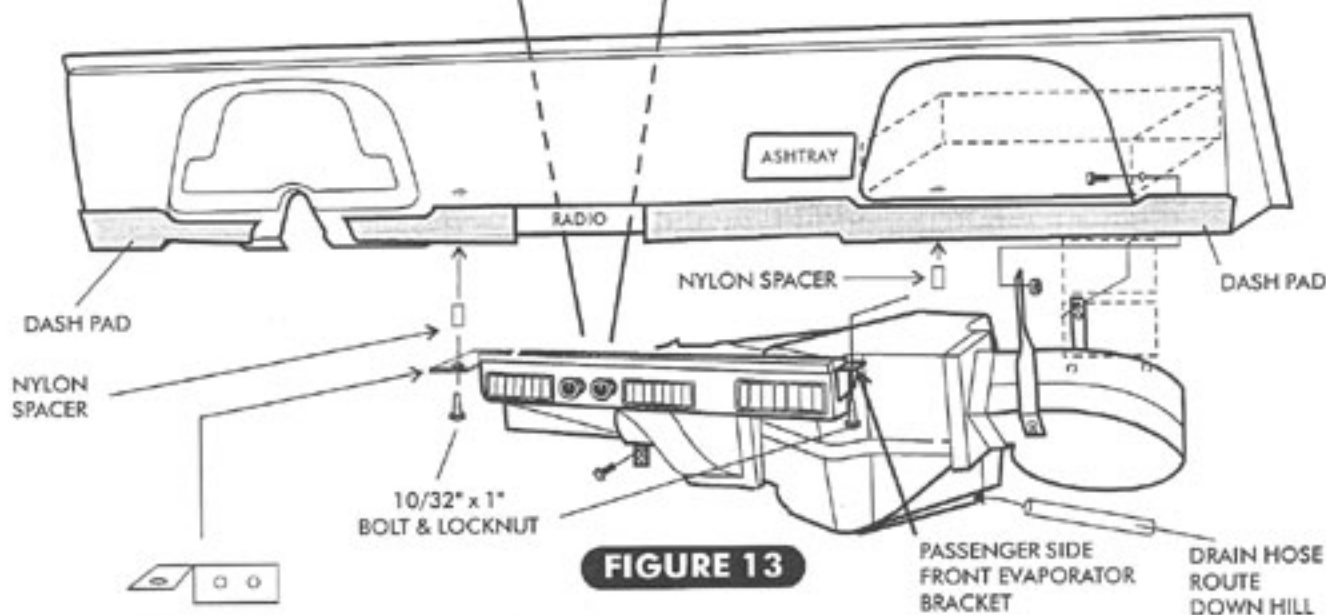

FIGURE 13
- TRUCKS WITHOUT OEM DASH PADS - REMOVE DASH PAD SPACER ON EVAPORATOR. SEE FIGURE 13 & 13B. THE NYLON SPACERS ON BOTH SIDES WILL NOT BE NEEDED.
- INSTALL DRAIN HOSE AT EVAPORATOR UNIT. LINE UP AND DRILL OPENING IN FIREWALL. BE SURE TO RUN DOWNHILL. SEE FIGURES 13 & 14.